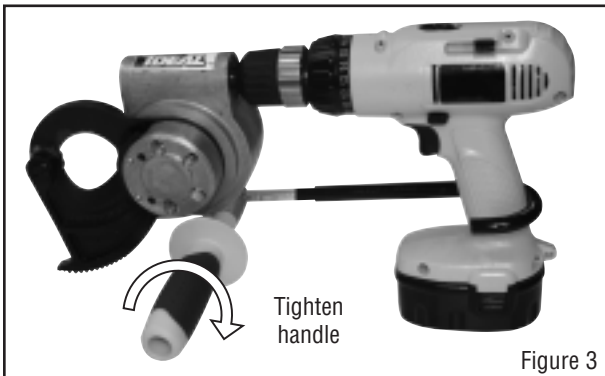

Figure 3
**STEP 3:** Loop torque arm around drill handle and tighten handle into locking collar to lock torque arm in place (Figure 3). Do not operate tool without torque arm in place.